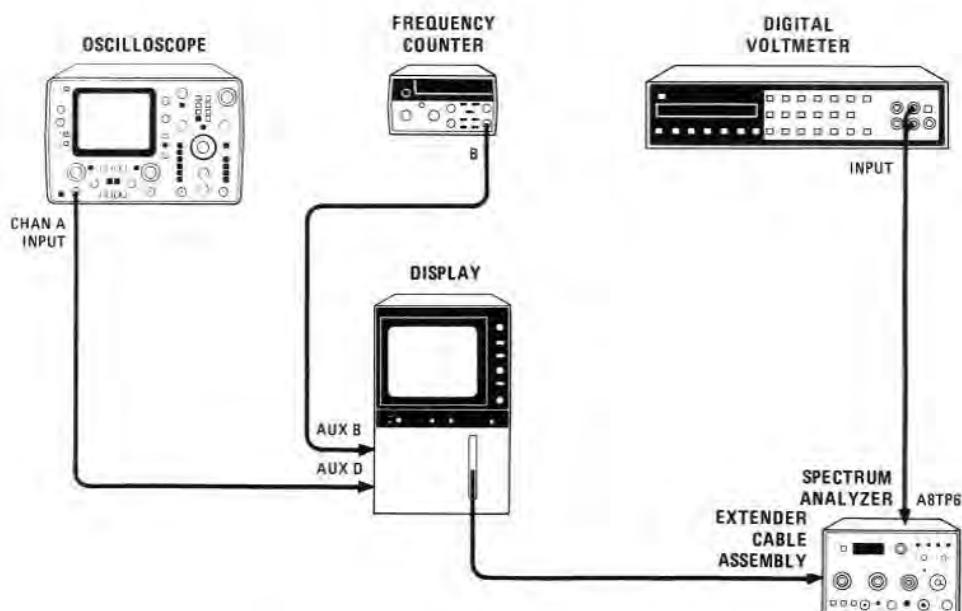

FIGURE 5-14. SWEEP TIME PER DIVISION ADJUSTMENT TEST SETUP
- Connect equipment as shown in Figure 5-14. Connect oscilloscope to AUX D, HORIZONTAL OUTPUT, rear of display mainframe, or to A8TP5 of HP 8558B. Connect digital voltmeter to A8TP6 (located to the left and below A8TP4.)